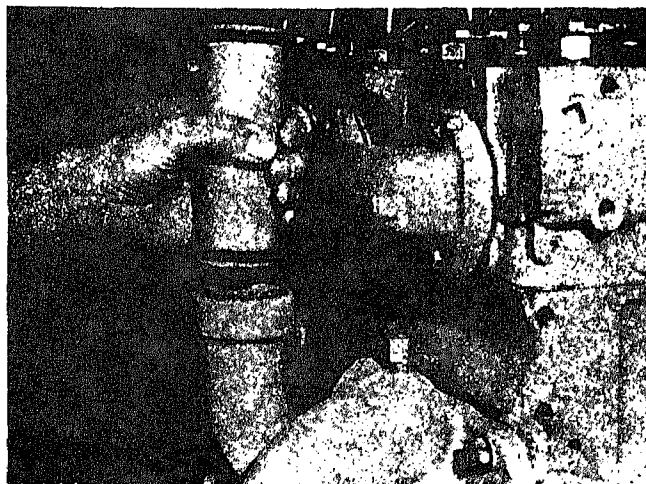

Fig. 14-1-66. Installing water by-pass connection
3. Install new "O" rings on water by-pass connection; slip connection into water pump connection, Fig. 14-1-66.